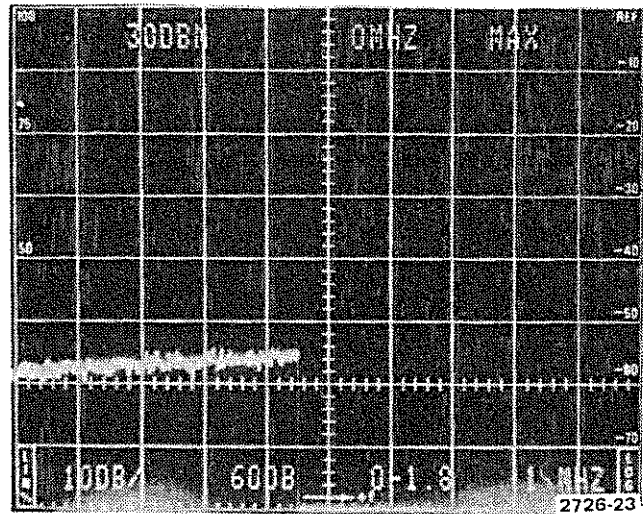

Fig. 3-3. CRT readout for power-up state.
a. Connect the 492/492P power cord to an appropriate power source (see Power Requirements under Installation instructions) and switch POWER on. Allow three to four minutes for the instrument to warm up and stabilize before proceeding. Note that the crt readout is functioning (see Fig. 3-3).